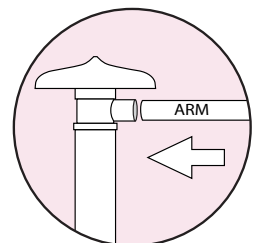
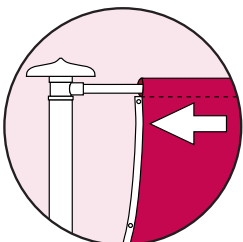

Fig 5a,
Fig 5b,
- 5, Push rotating arm into joint, ensure button clips into place (see fig 5a), slide top sleeve on flag over the arm. (see fig 5b)